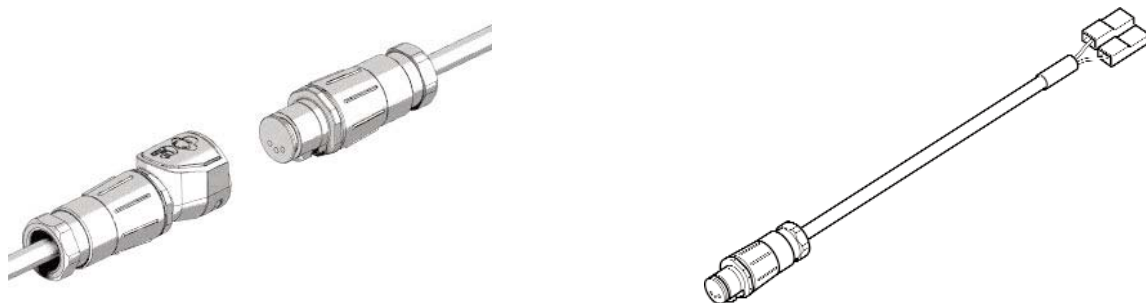

Fig 8a. STEP 1- Connect Deutsch® Connectors Fig 8b. STEP 2 - connect adaptor with 2 spades
- Fig 8a STEP 1- Connect Deutsch Connectors